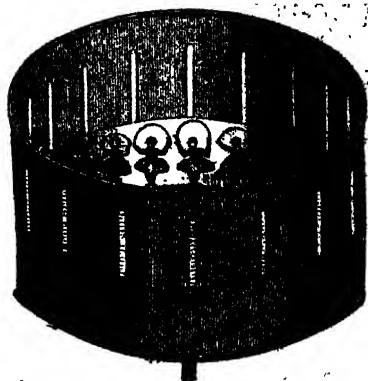

FIG. 23.
**ZOETROPE**, or Wheel of Life. (Fig. 23.) This instrument is so named from its exhibiting the pictures of objects as if possessed of life. It consists of a cylinder of cardboard of about 12 in. diameter and  $7\frac{1}{2}$  in. in depth, with a rim of metal at the top and fastened to a circular piece of wood at the bottom. An upright inserted into the stand, *S*, forms the vertical axis upon which the box may be made to rotate with any desired speed. There are thirteen apertures, each 3 in. long and  $\frac{7}{8}$  in. wide, at equal distances round the circumference.